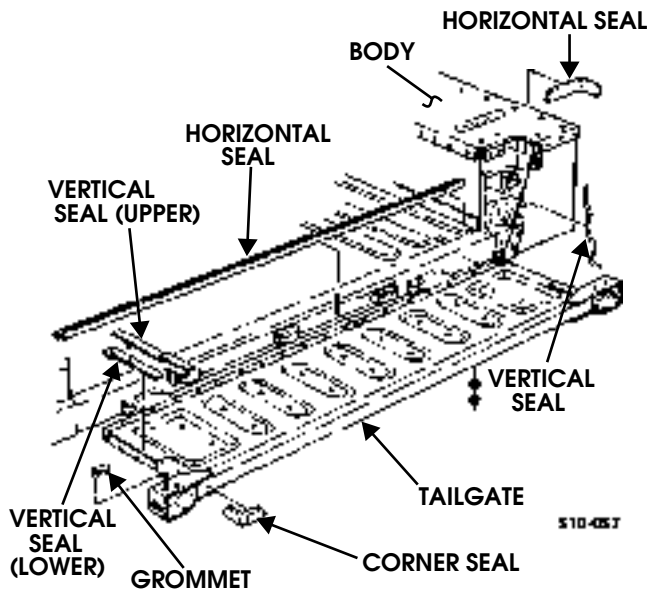

Figure 10-143: Tailgate Mounting Bracketry and Seal Location
4. Remove two vertical and horizontal seals from body and four vertical seals and one horizontal seal from tailgate. Remove two corner seals (station wagon model only). Discard seals (Figure 10-143).
1. Install two grommets on tailgate (Figure 10-143).